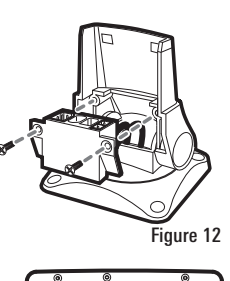

Figure 12
4. Insert the connector holder into place and fasten it to the mounting bracket using the two #6-32 x 1/2" screws (Figure 12). **Hand-tighten only.**